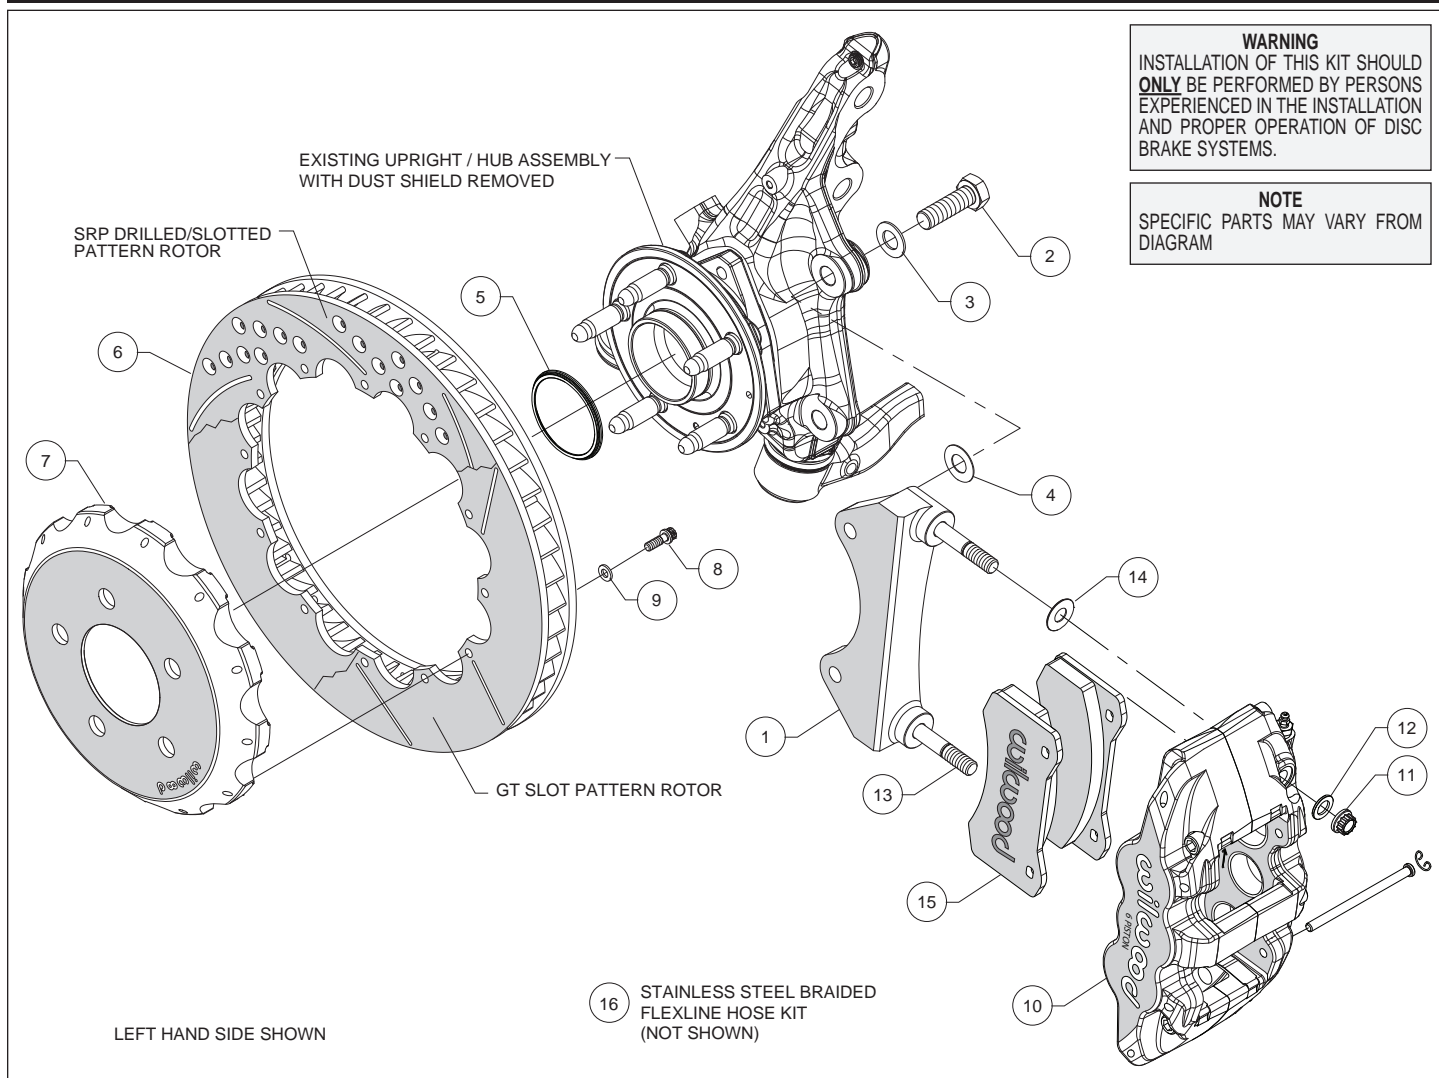
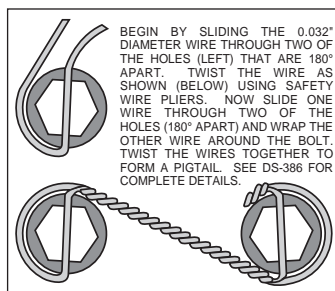

Figure 1. Typical Installation Configuration
Figure 3. Safety Wire Diagram
Assembly Instructions (numbers in parenthesis refer to the parts list and Figure 1 on the preceding pages):
- The caliper mount bracket (1) should initially be installed with clean, dry threads on the mounting bolts. Orient the bracket as shown in Figure 1, and Photo 1 and install using bolts (2) and washers (3). Initially place one .029" thick shim (4) on each bolt between the bracket and upright, Figure 1. Temporarily tighten the mounting bolts. **NOTE:** *The bracket must fit squarely against the mount bosses on the upright.* Inspect for interference from casting irregularities, machining ridges, burrs, etc. Later, after the caliper alignment has been checked, the mount bolts will be secured using red *Loctite*® 271.
- Orient the rotor (6) and the hat (7) as shown in Figure 1 and Photo 2. Attach rotor to hat using bolts (8) and washers (9). Using an alternating sequence, apply red *Loctite*® 271 to the threads, and torque to 155 in-lbs. For an added measure of security, the bolts may be safety wired using standard 0.032 inch diameter stainless steel safety wire as shown in Figure 3. Please refer to Wilwood's data sheet DS-386 (available at www.wilwood.com/Pdf/DataSheets/ds386.pdf) for complete safety wire installation instructions.
- NOTE:** *This kit contains distinct right and left hand calipers that must be mounted in a specific direction, as described below.* Lubricate the caliper mounting studs (13) with lightweight oil. Initially place one .030" thick shim (14) on each stud as shown in Figure 1 and Photo 5. Mount the caliper (10) onto the bracket (1) using lock nuts (11) and washers (12), Figure 1. Ensure that the caliper is mounted so that the largest pistons are at the rotor exit end of the caliper, in relation to the direction of rotor rotation. Temporarily tighten the lock nuts and view the rotor through the top opening of the caliper. The rotor should be centered in the caliper, Photo 6. If not, adjust by adding or subtracting shims (14) between the bracket and the upright. Always use the same amount of shims on each of the two mounting bolts. Once the caliper alignment is correct, remove the bracket mounting bolts (2) one at a time, apply red *Loctite*® 271 to the threads, and torque to 77 ft-lb.
- Remove the two pad retaining pins from the caliper (10) by carefully popping out the pin retaining clips and sliding out the pins. Insert the brake pads (15) into the caliper from the bottom, Figure 1 and Photo 7. With the friction material facing the rotor, secure the brake pads in place with the pad retaining pins and clips, Photo 8. Reinstall the caliper onto the caliper mounting bracket and temporarily tighten the lock nuts. Check that the top of the brake pad is flush with the outside diameter of the rotor, Photo 9. If not, adjust by adding or subtracting shims (14) between the caliper and the bracket. After the caliper pad height is set, torque the caliper lock nuts (11) to 47 ft-lb.